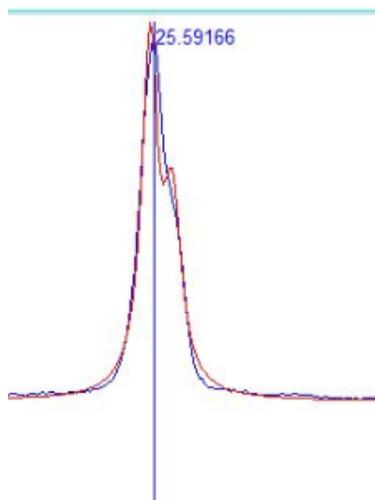

Figure 12. Example of calculated curve over measured curve
3. Examine the measured scan versus the calculated scan. The blue line is the measured values and red line is the calculated result. Ideally the red line lies over the blue line with the peak position in the middle (Figure 12).